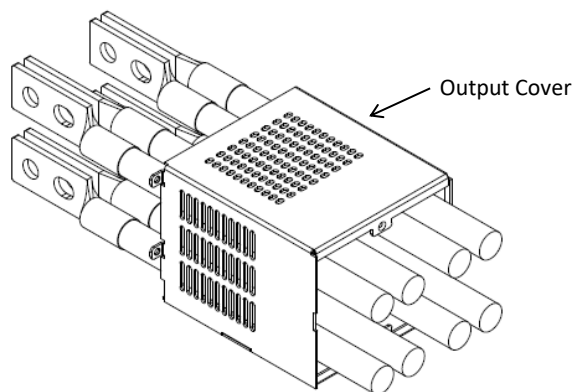

Figure 4: Output Cover Insertion
4. Insert output cover through the cables as illustrated in Figure 4.